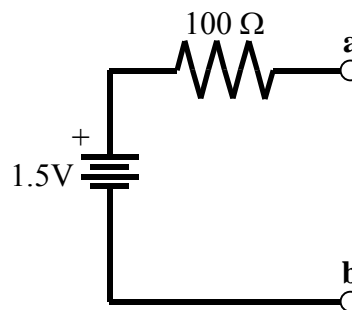

Figure P2-1 - Battery circuit
a. (5 points) Connect a 100 Ω resistor and the 1.5 V AA battery as shown in Figure P2-1. Measure the open circuit voltage and the short circuit current at the circuit terminals, marked a and b in Figure P21. Do NOT short circuit the battery all by itself, i.e. always have the 100 Ω resistor in the circuit. If you like, you can find current by measuring the voltage across the resistor and applying Ohm's Law. This is a safer way of measuring current than using an ammeter. If you do this, consider whether you should use the nominal or measured value of the resistance when computing current.